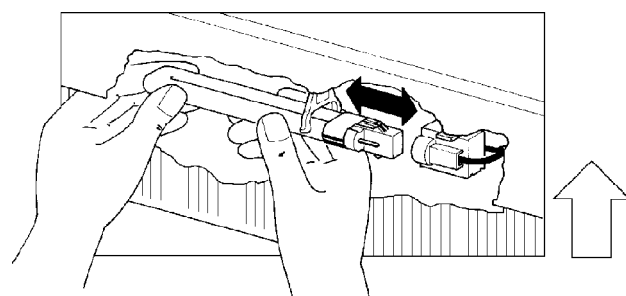

Fig. 29.3
- Hold the lamp in the correct mounting position as shown (Fig. 29.3) and push it to the right until it engages in the lamp holder.